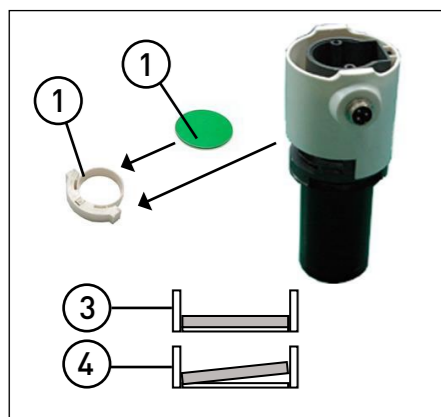

FIGURE 11
2.2.8 Installing the colour filters (Fig. 11)